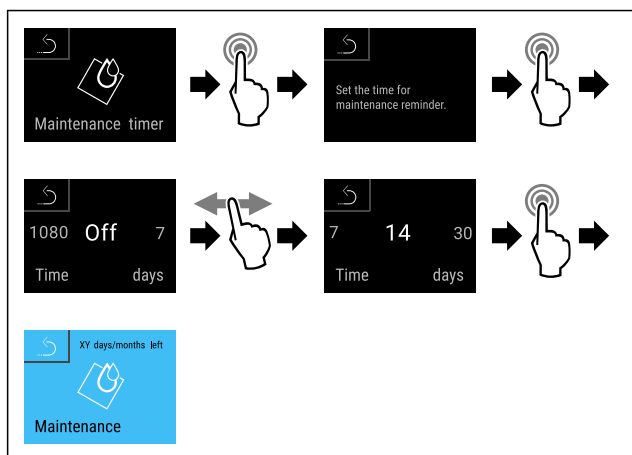

Fig. 104
- ▶ Complete steps (see Fig. 104).